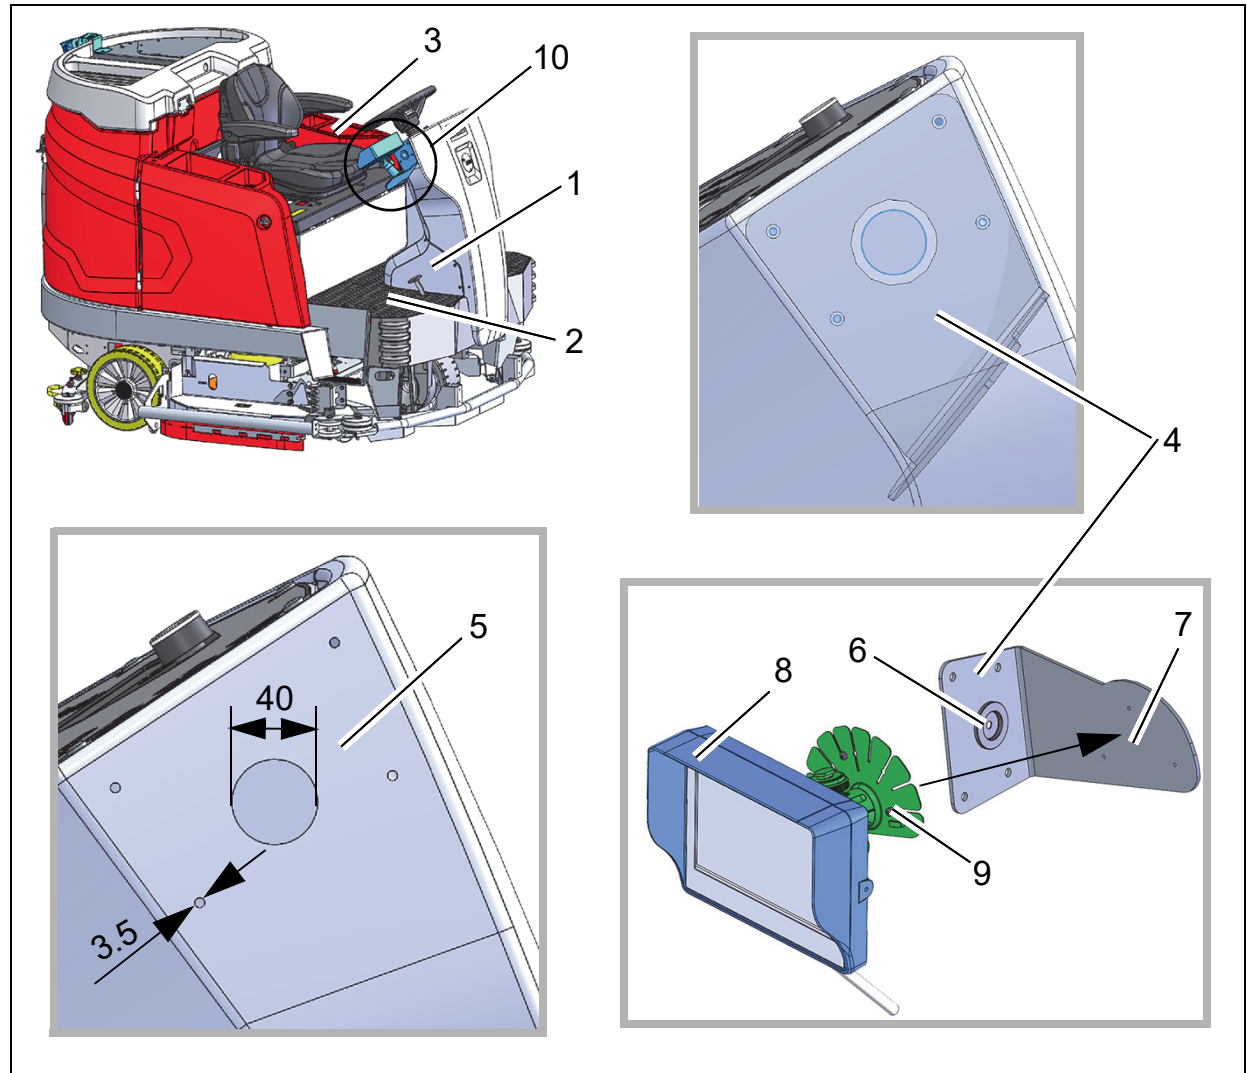

Fig. 2
- Engine cover (Fig. 2/1)
- Floor mat (Fig. 2/2)
- Side panelling (Fig. 2/3)
1. Use the monitor holder (Fig. 2/4) as the drilling template. Align the monitor holder according to the figure, transfer the drilling pattern to the right side of the steering column and drill (Fig. 2/5).
2. Insert the cable sleeve into the hole of the monitor holder (Fig. 2/6).
3. Clean the surface of the holder (Fig. 2/7) with a clean cleaning cloth and methylated spirit. After cleaning, allow the surfaces to air for approx. 10 minutes.
4. Adjust the the base of the monitor (Fig. 2/9) according to the three holes to the holder (Fig. 2/7) and stick it on. Additionally attach the base using the three M3x8 bolts.
5. Attach the monitor holder to the steering column using the four EJOT-PT bolts (Fig. 2/10).